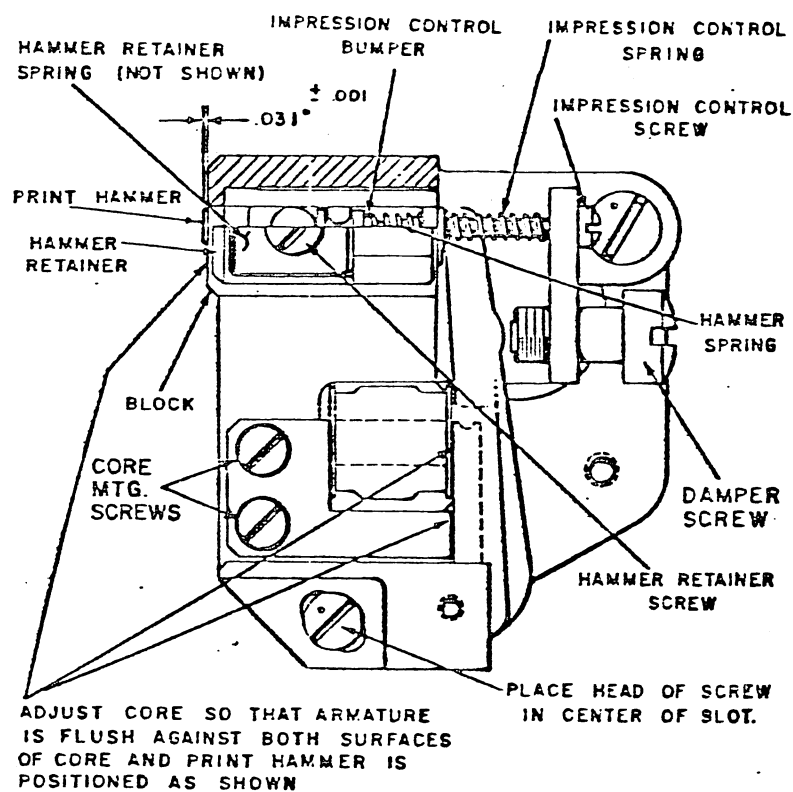

Figure 4-20. Hammer Armature Core
Slightly loosen the armature core mounting screws. Adjust the core so that the armature is flush against both surfaces of the core and the print hammer protrudes beyond the block by $.031 \pm .001$ ". Tighten the mounting screws. Refer to Figure 4-20. With the hammer in this position the clearance between the hammer face plate and the type wheel should be .028 to .030". Install rear paper guide.
Upon completion of armature core setting above, turn the impression screw clockwise until the retainer starts to move, then turn the screw additional one full turn. Refer to Figure 4-20. This setting may be changed during actual print-out of characters.
3. Print all the characters on the type wheel and observe for paper tear on the front pages. If paper tear on the front page is noted, decrease the hammer impression by turning the impression control screw clockwise. Do this in very small increments until the paper cutting just disappears. If there still is paper tear, decrease the air gap between the hammer core and the armature by turning the plastic damper screw counterclockwise in very small increments. If there is no paper tear and the characters are printing very light, increase the impression and the air gap between the hammer core and armature to the point just before the paper tears and slight embossing occurs on the front page (turn impression control and damper screw counterclockwise). Check the last copy to determine if it is legible. If the last copy is completely illegible, increase the amount of embossing on the front page. For adjustments refer to Figure 4-20.
2. Print all the characters on the print wheel and observe for paper tear. If there is paper tear, move the impression control retainer to the rear of the machine by turning in the spring-loaded retainer adjusting screw clockwise. Refer to Figure 4-20. Make the adjustment in small increments, just until paper tearing stops.